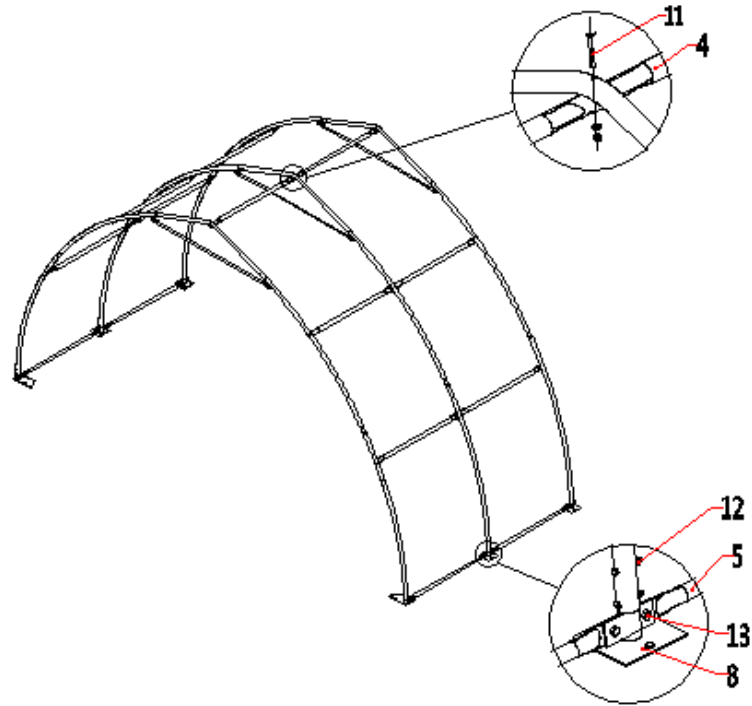

Figure 5
- Refer to step 3 to put up the rest trusses, connect roof purlin (#4) with bolts (#11), connect the bottom tension tube (#5) with baseplate (#8) (Figure 5).
- (35) Roof purlin (#4)
- (40) Half round head bolt (#11)